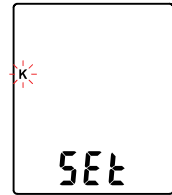

Fig.4
- (1) Power off the meter first. Press and hold MIN/MAX button, then press OFF button to power on and enter setting mode. Release all buttons, the LCD blinks "SEt".
- (2) Press ▼ (°C/°F) button to Selecting Thermocouple type (see Fig.4)
- (3) Press ▲ (T1-T2) to select from K, J, E, or T type thermocouple.
- (4) When done, press ▼ (°C/°F) button to exit setting mode.